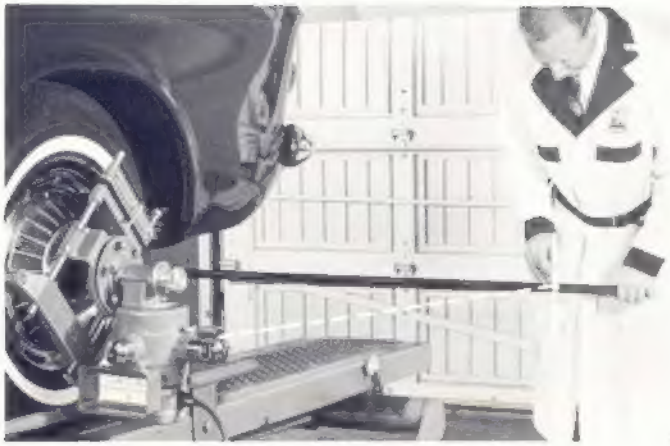

FIGURE 48
B. If Model L80-3-S Rear Toe Gage is not available (Figure 48)—